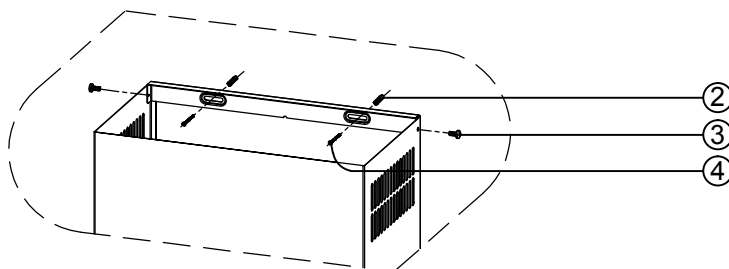

Figure A7
- 4- Screw the flue mounting apparatus to the wall by using 4x35 rysb(4) screws.
- 5- Lift the flue top and fasten to the flue mounting apparatus on sides by using 3,9x9,5 pan head screws(3) as shown in Figure A7 and complete the mounting works.